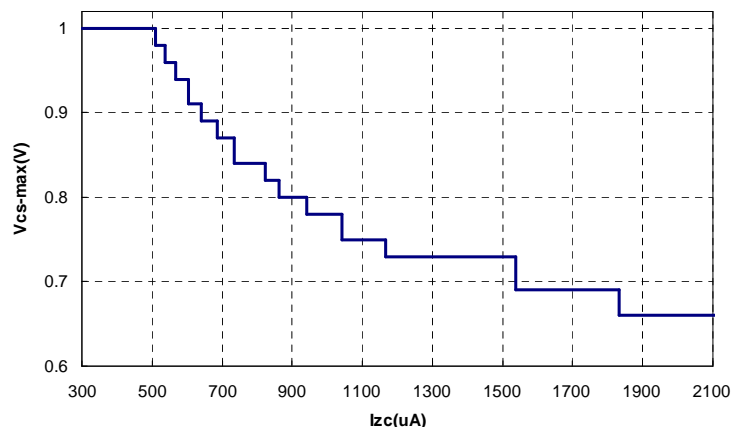

Figure 8 Maximum current sense limit versus ZC current during MOSFET on-state
In (13), V_{BUS_S} is the voltage from which the maximum output power is desired to be maintained at constant level. The corresponding maximum current sense voltage in relation to the ZC current is shown in Figure 8.